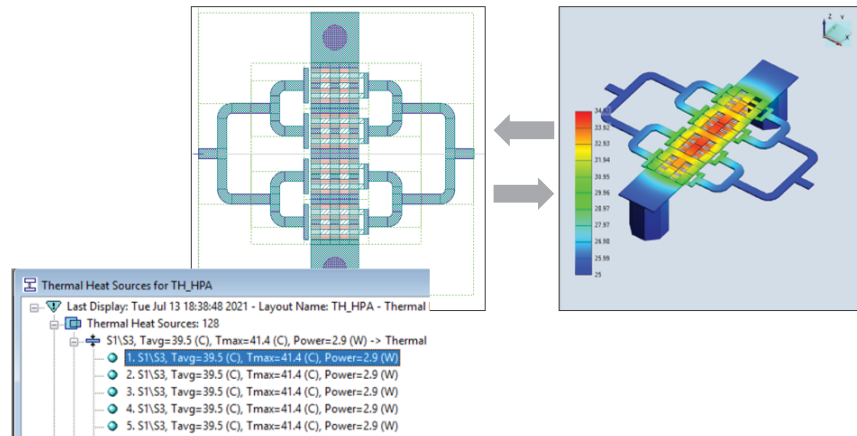

Figure 1: Microwave Office/Celsius design flow
With the system trend to shrink footprints while integrating more electronics, the importance of EM and thermal analysis at the point of design has become critical to efficient and successful system development. Figure 1 illustrates how the AWR Design Environment Microwave Office® circuit simulator and the Celsius Thermal Solver combine to provide insight into the operating temperatures across RF components and subsystems. The easy-to-use workflow takes advantage of AWR's powerful extraction block technology to automatically generate a user-specified thermal structure complete with power dissipation information obtained from a Microwave Office harmonic balance (HB) circuit simulation of the structure to be analyzed, which can include a single transistor, entire MMIC (bare die or packaged), and/or PCB.